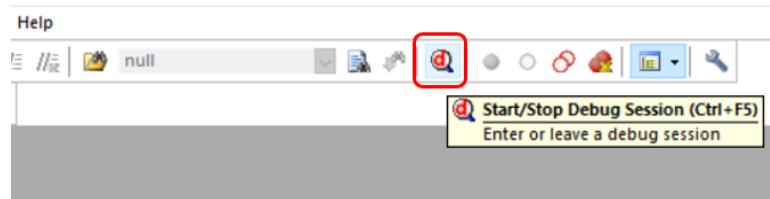

Figure 8.20: Keil IDE: Debug Button
2. Press the “debug” button to bring up the debugger interface (See Figure 8.20).
- To exit the debugging session, press the “debug” button again (see Figure 8.20).